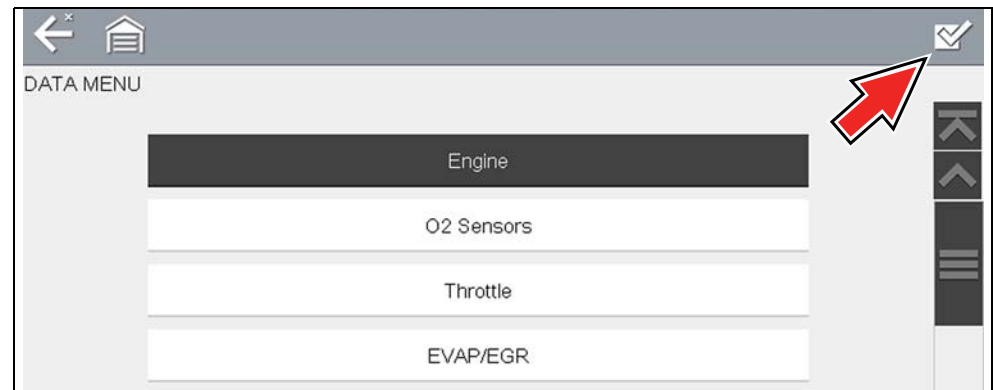

Figure 6-18
1. From the Data Menu select the **Custom List** icon on the toolbar (Figure 6-18). The Custom List icon allows you to start a custom list directly from the Data Menu.